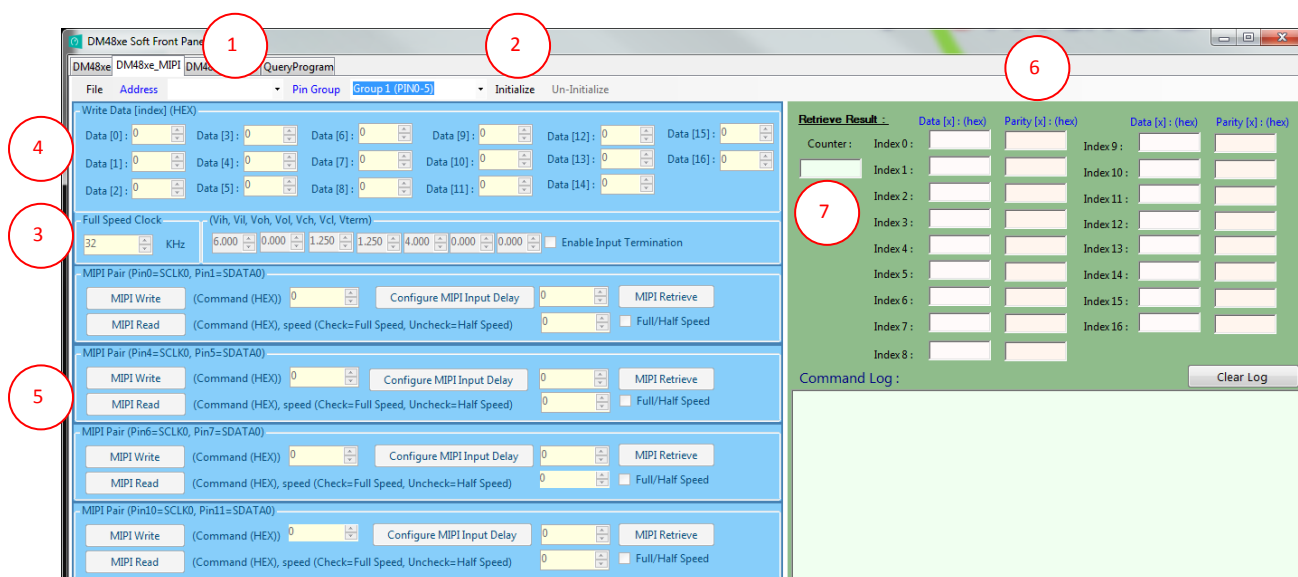

Figure 4: MIPI SFP
7. Set the data that should be written to the module at part (6). Refer to Figure 4.